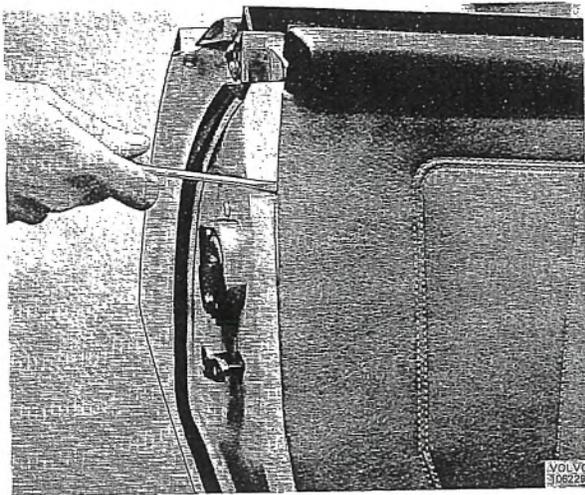

Fig. 8-12. Removing door upholstery
4. Undo the door upholstery panel by carefully levering with a screwdriver under the edge of the panel (Fig. 8-12). When the clips have loosened, lift the door panel upwards.